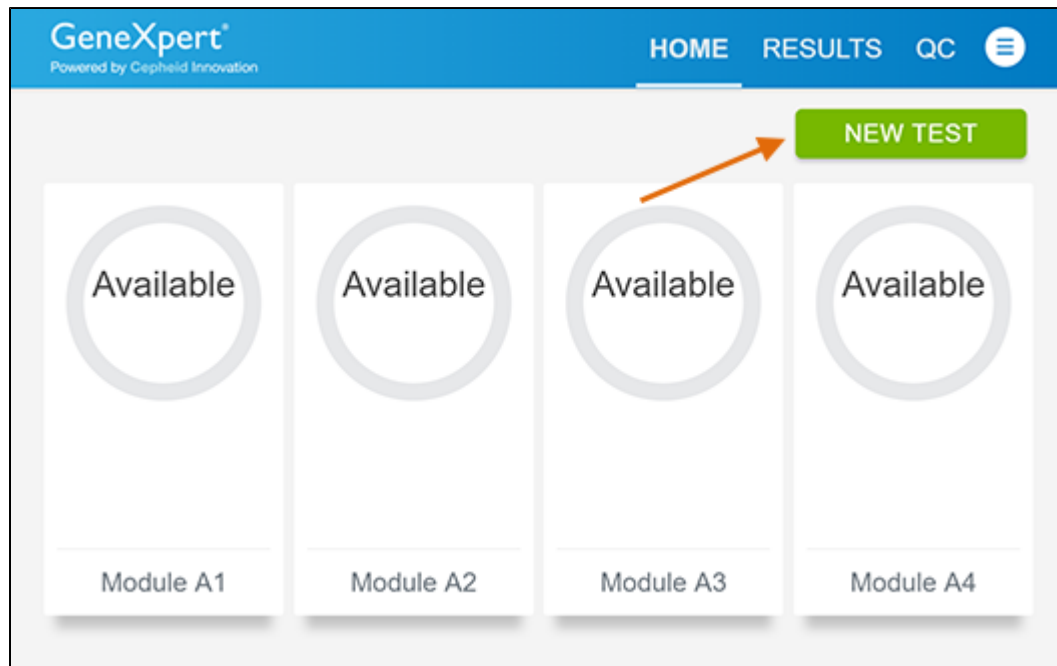

Figure 15. Home Screen
2. Touch the **NEW TEST** button on the **Home** screen (see Figure 15).